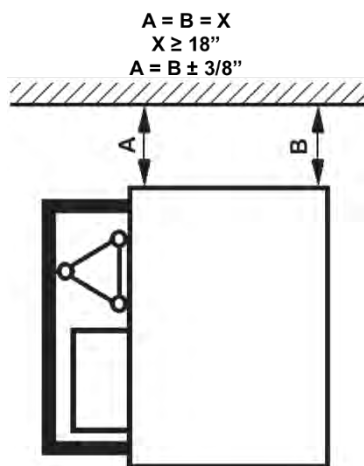
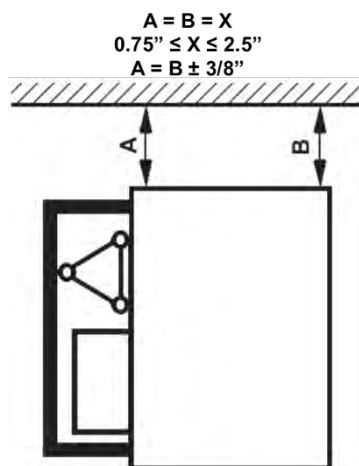

Figure 6.9
Figure 6.10
- **This distance must not be less than 18 in. if installing the unit as a Transport Platform as indicated in ANSI A92.10 as shown in Figure 6.9 (if using landing doors for a transport platform supplied by BETA MAX set the unit 24 inches from the building for the door to function properly); or if installing the unit as a Material Hoist is not greater than 2.5 in. as shown in Figure 6.10 in order to ensure the loading unit passes through with no difficulty and no risk of collision.**